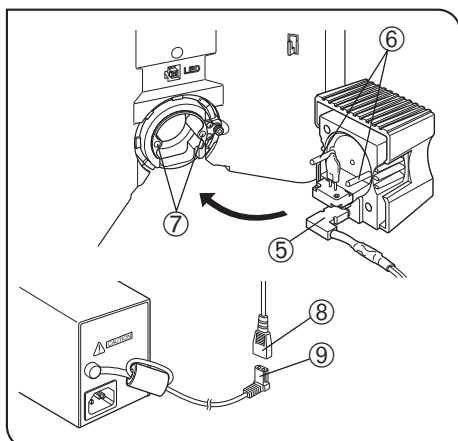

Fig. 38
2. Insert the lamp cable ⑤ in the direction shown in the figure 38.
3. Aligning the guide pins ⑥ with the guide pin holes ⑦ at the rear of the microscope frame, gently push the lamp socket all the way into place.
Connecting the Lamp Cable (Fig. 38)